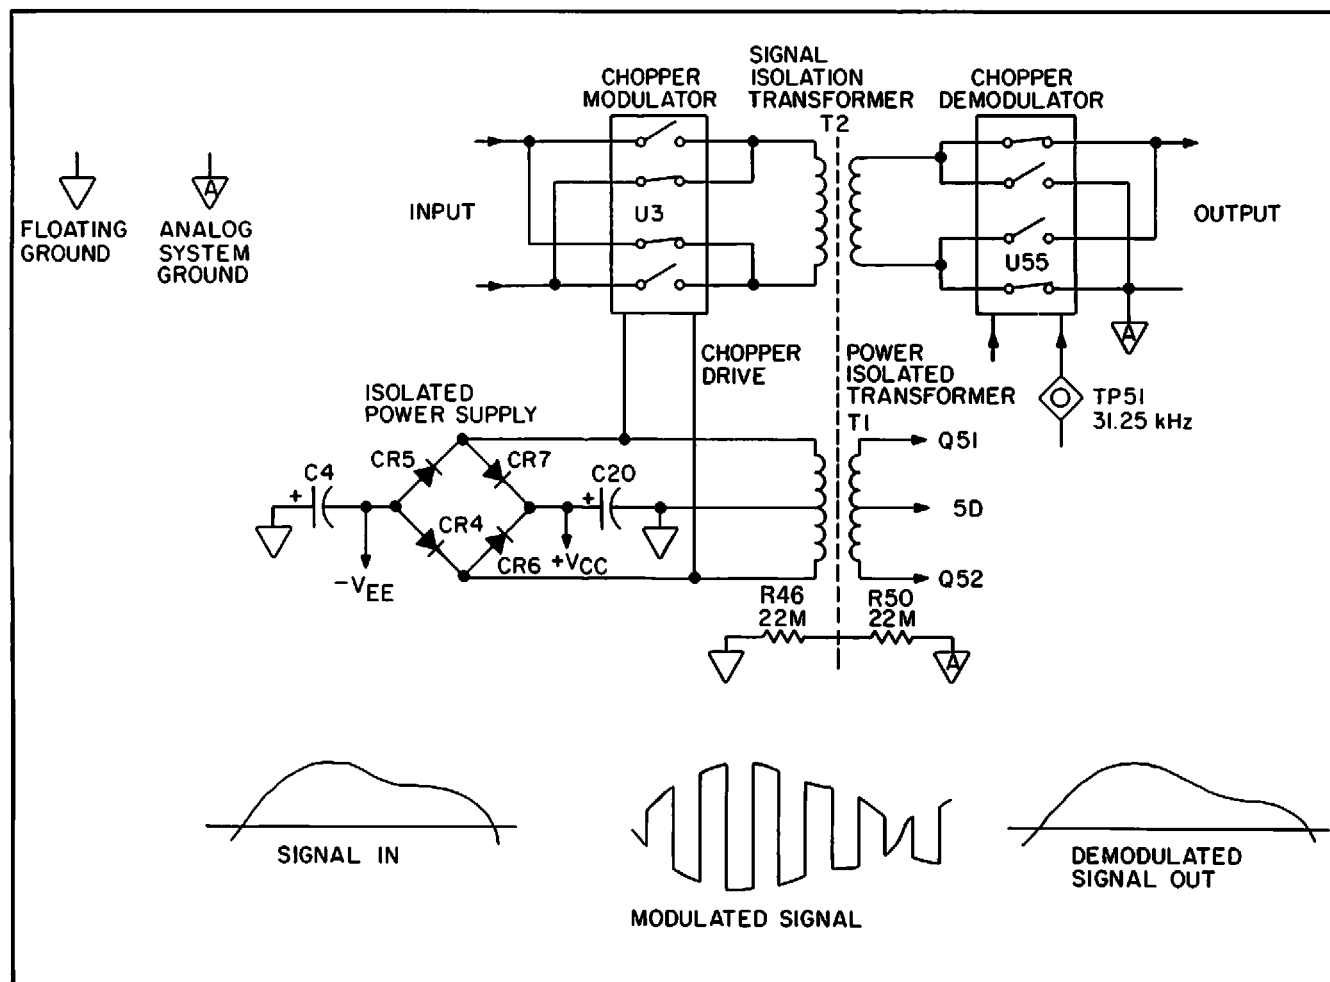

Figure 2-8
2.3.2.5 Chopper Modem and Power Supply (Fig. 2-8)